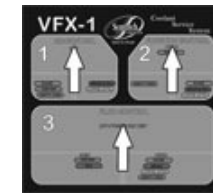

Figure 3
- 9) Return all control panel valves to neutral position. (Fig 3)